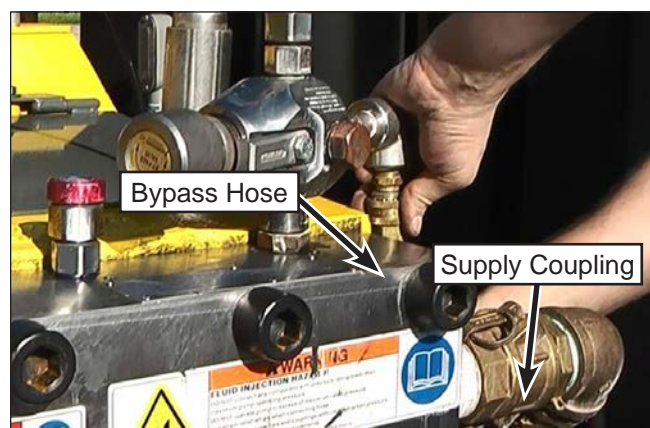

Figure 39: Connecting Bypass Hose and Supply Coupling.
26. Connect the supply coupling (Figure 39) and the bypass hose to the manifold.